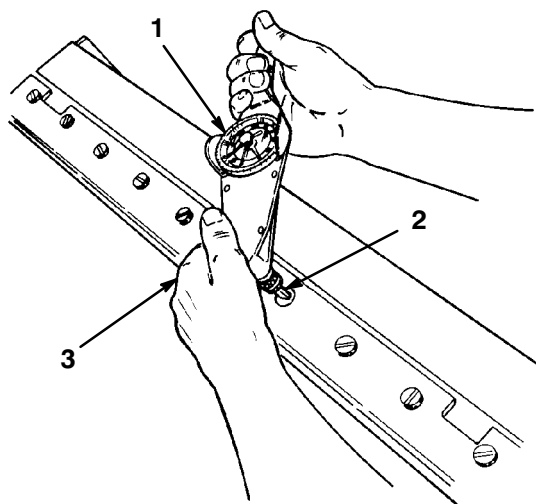

**Figure 26**
2. Remove the mounting screws for the bedknife and separate the bedknife from the bar (Fig. 26). Discard the screws.